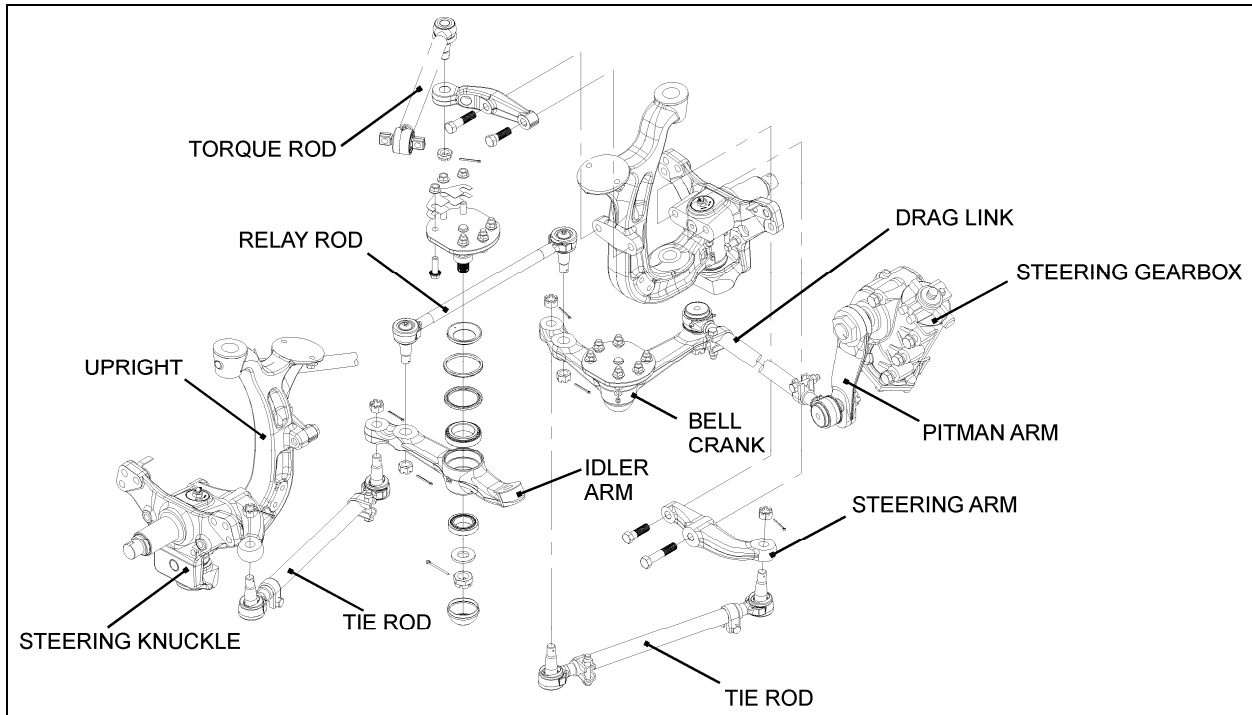

FIGURE 11: IFS STEERING LINKAGE OVERVIEW
3. While performing a full left and right turn, check for proper position of the tie rod end clamp bolt and nut and drag link end clamps in order to avoid clamps interfering with close parts. Refer to figure 11 for location and positioning of clamp bolts and nuts. Reposition if required.